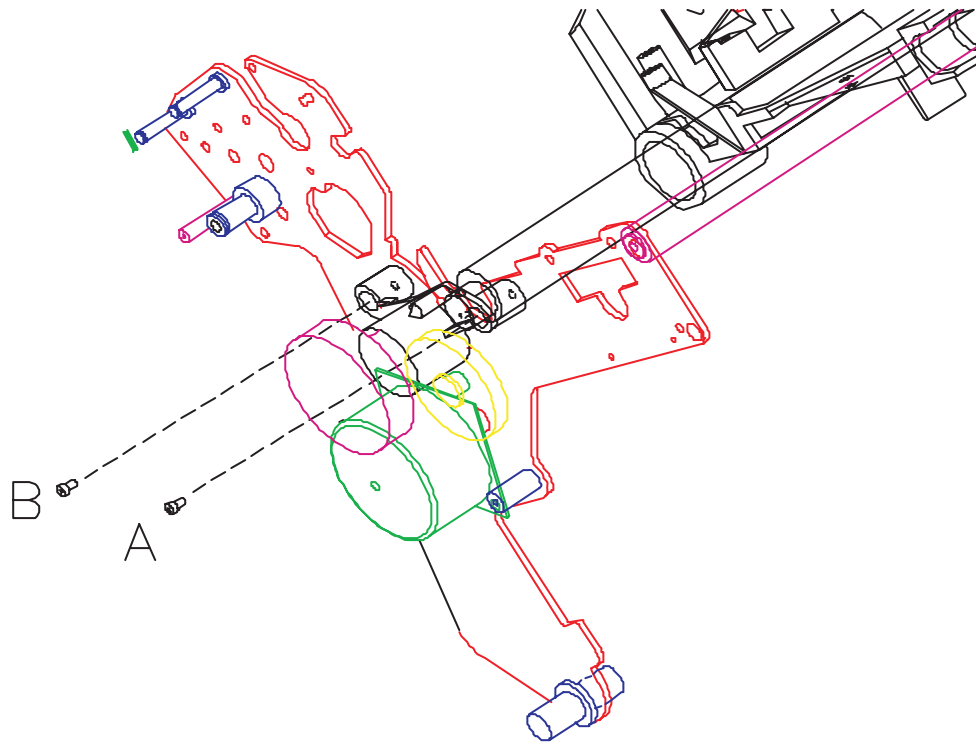

Figure 34. AGA (AFTA) Marker Adjustment
Mount the AGA (AFTA) Marker by slightly tightening the right side screw indicated in Figure 34 on page 96 (item A). Set the AGA wheel on sector 1 reference. Fix the ribbon mask, if previously removed.
If two teeth are touching during the gears engagement, put the (AFTA) Marker gear in the first free tooth and tighten both screws (item A and item B in Figure 34 on page 96).
- Loosen both AGA (AFTA) wheel screws. See A and B in Figure 34 on page 96.